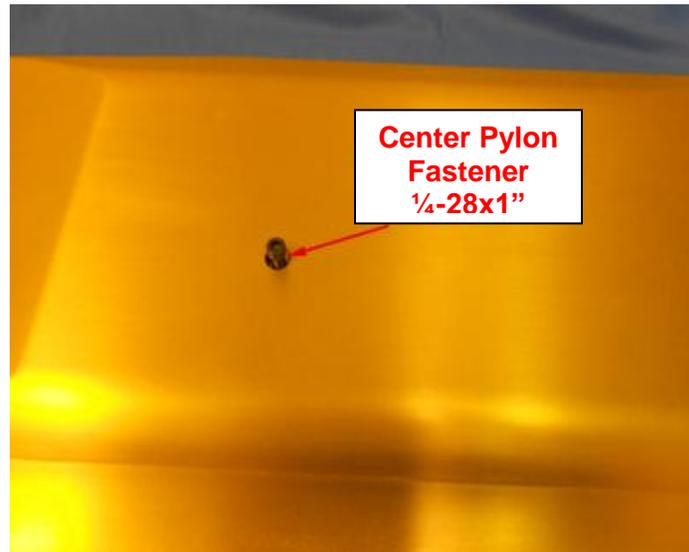

Figure 3.3.3. Center pylon fastener should be removed last.
3. Using the Torx plus driver, gradually loosen all the pylon fasteners approximately 1/4 to 1/2 turn, saving the center, #1/4-28, fastener for last (**Figure 3.3.3**). This will gradually decrease the compression on the O-ring, and uniformly decrease the stress on the pylon cover. Once all the fasteners have been initially loosened, proceed to